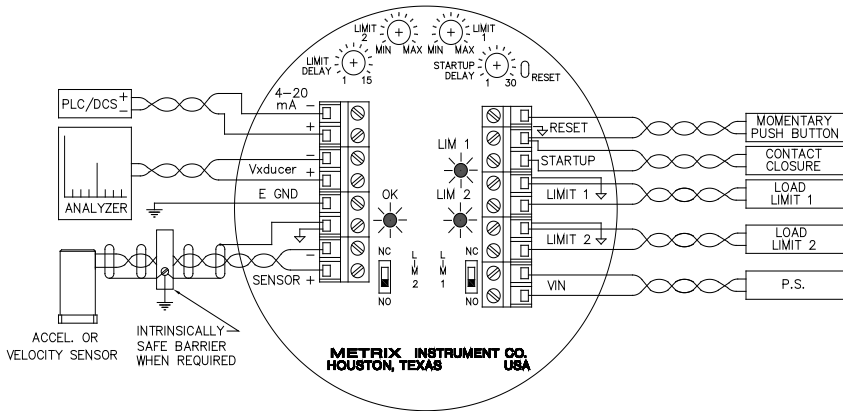

Figure 2: Wiring Diagram (LCD option not shown)
Refer to Figure 2 for wiring information. For incoming power and switch output(s) use approved wire of 14 AWG (1.5 mm²) or smaller.
- a. Set each SW6000 for N.C. (normally closed) operation. (See Figure 2)
The optional FET limit output(s) provide a low leakage switch for DC inputs to PLC's or other devices. Do not use on an AC supply. Observe proper polarity when wiring the FET(s) (See figure 2). Damage to the FET(s) will result from improper wiring. As with the triacs, the FET(s) can be set for N.C. or N.O. operation by positioning the Limit 1/Limit 2 switches accordingly.
If remote reset capability is desired, connect Reset terminals (see Figure 2) to a remotely located, momentary N.O. pushbutton switch. Observe hazardous area requirements if applicable.
If the optional 4-20 mA output is installed, it may be connected to a remote receiver, as shown on the wiring diagram (see Figure 2). This output is a current source (at 15VDC) and requires no external loop power supply. Full scale current (20 mA) corresponds to the full scale vibration response marked on the face plate. A current of 4.0 mA represents a zero vibration condition. The maximum load resistance is 600 ohms. In high electrical noise locations a shielded, twisted pair cable is recommended.